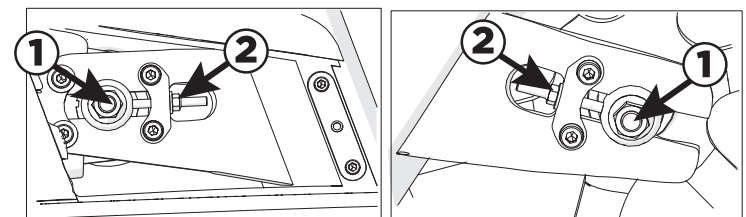

Figure 3
2. Loosen the axle nuts ① on the chain adjustment screws (Figure 3) on both sides of the bike.
3. Tighten or loosen both chain adjustment nuts ② equally on both sides of the bike.